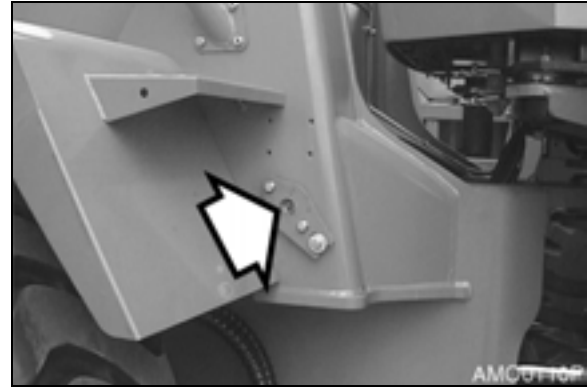

Figure 32
- D: Lift cylinder heads (left, right), 2 locations (Figure 32).